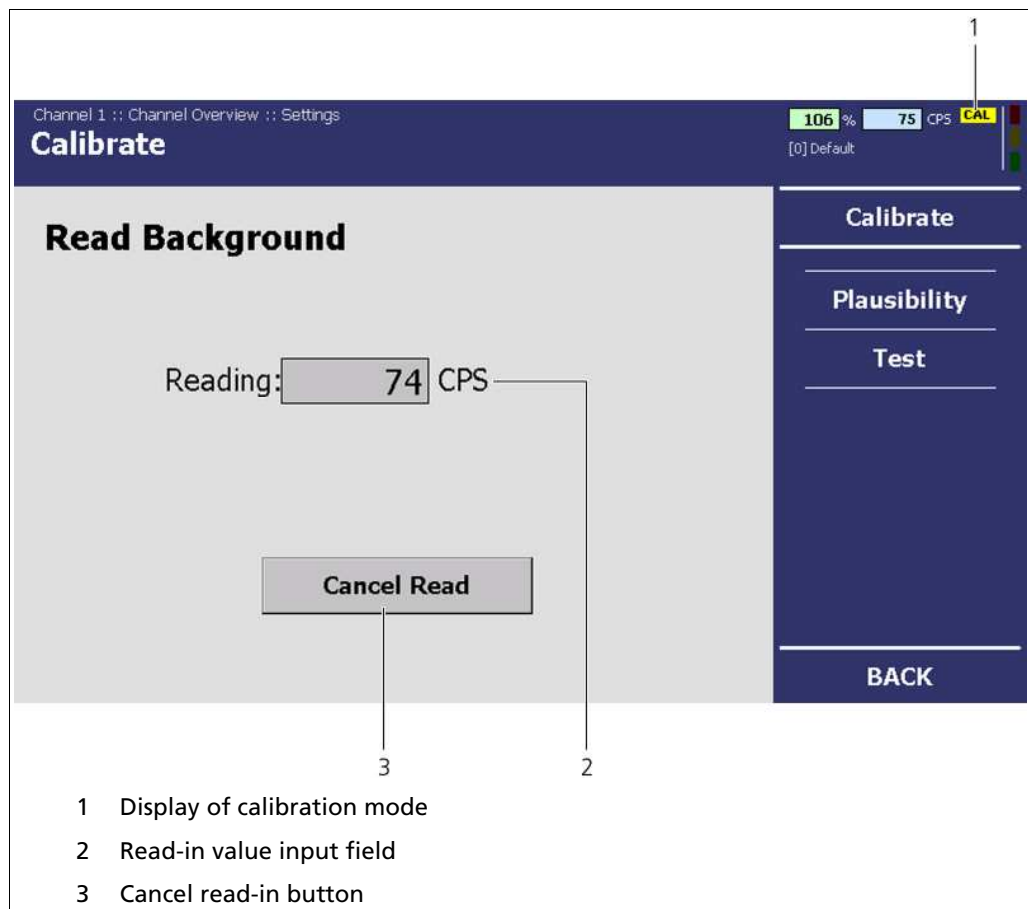

Fig. 57 System Menu, Settings - Calibration (reading in calibration point)
- ⇒ By clicking on **<Read in>**, the calibration point is automatically read in (Fig. 57). The duration of the read-in process depends on the settings applied in the menu **Settings | Calibration | Plausibility**. Further information on the settings can be found in chapt. 7.2.1.3 in the "Plausibility" submenu.
- ⇒ The EVU is in "Calibration (CAL)" mode (Display in Fig. 57, Pos. 1), as long as calibration is being carried out.